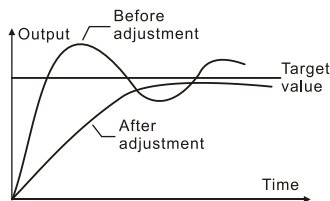

Figure 6-19 Suppress Output Exceeding of PID Control
6) Refer to the descriptions in Figure 6-19/6-20 for specific application.